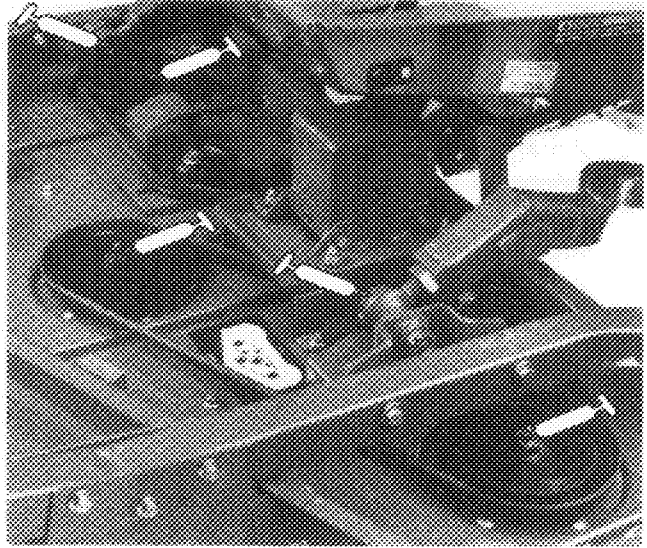
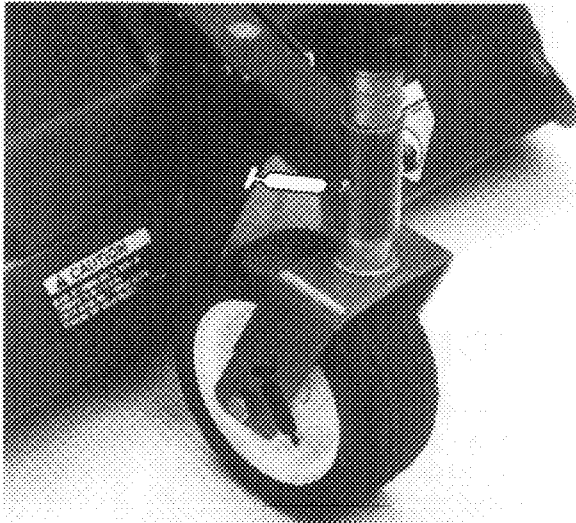
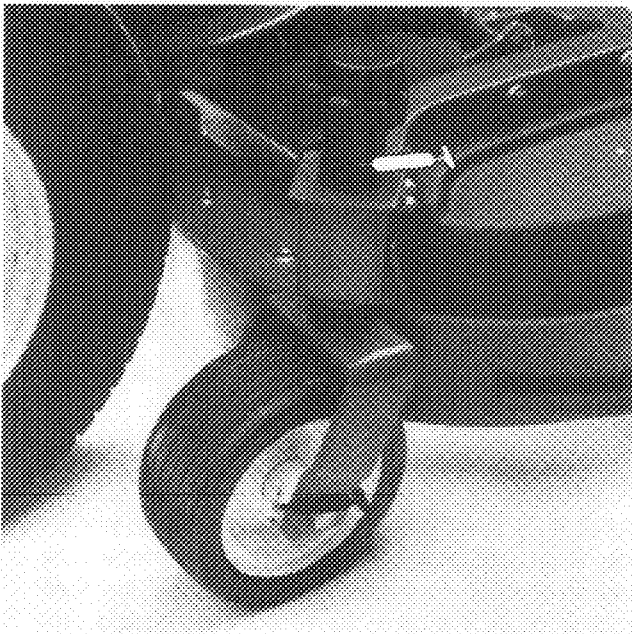

Figure 25
Figure 23
Figure 24
GREASE BEARINGS, BUSHINGS AND GEAR BOX (Fig. 23–26)
1. The cutting unit has bearings and bushings that must be lubricated, and these lubrication points are: front castor spindle bushings (Fig. 23); rear castor spindle shaft (Remove shaft from castor arm and coat hex shaft with designated grease every 50 hours (Fig. 24); castor wheel bearings (Fig. 23 & 24); blade spindle bearings (Fig. 25) and right and left push arm ball joints (Fig. 25).